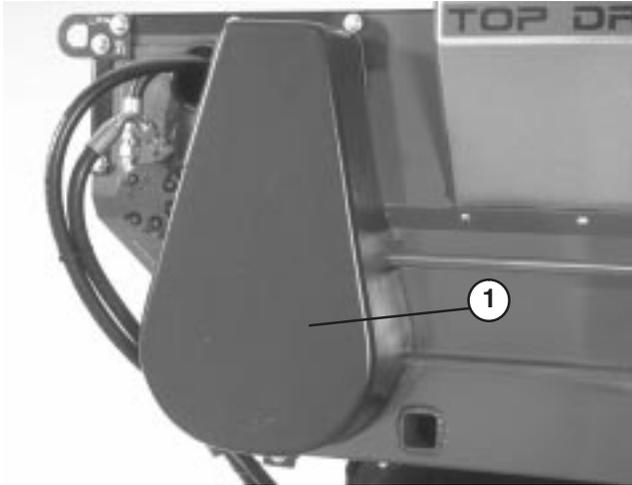

Figure 22
1. Remove chain cover (Fig. 22).